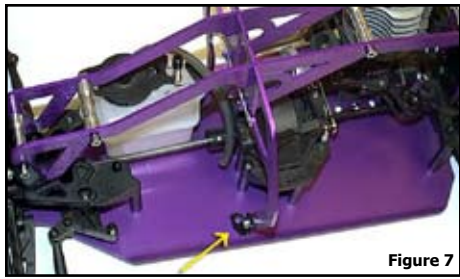

Figure 7
**7.** Temporarily install the cage with (1) *Cage Spacer* and *M3x8 SHCS* at the front and rear cage mounts. Secure the *Hoop* to the chassis through *Cage Mount*
*3* on the right side with *M3x8 FHCS* and *Lock Nut*. Scribe a mark in the chassis plate at the left side *Cage Mount 3* as shown in *Figure 7*. Remove the cage and drill a 1/8" hole at the mark. If you have a countersink tool, countersink the new hole on the bottom of the chassis plate (this is not required).